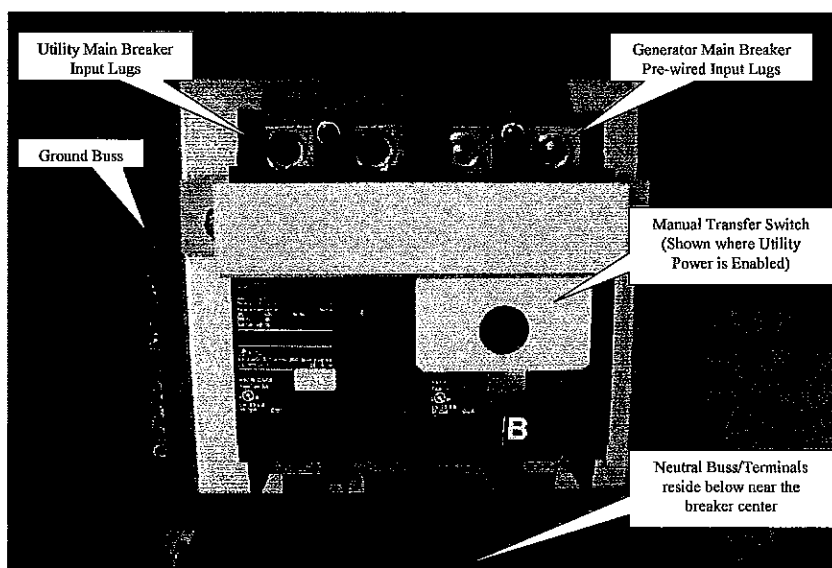

Figure 4. PPC Main Breaker Layout (left: Commercial Power, right: Generator)
3. The two "hot" conductors (Line1 & Line2) should be installed in the "Utility Main Breaker Input Lugs" on the top of the Commercial Main Breaker (see Figure 4).
5. The Ground conductor (green) should be installed in an available position on the Ground Buss located near the Commercial Main Breaker (see Figure 4).
6. Under normal circumstances, the "Manual Transfer Switch" (sliding bar) should have the open end over the left-most breaker allowing the Commercial Disconnect to be ON (see Figure 4).
**Generator Operation (refer to Figure 4 for procedures):**
2. Connect the conduit all the way to the SquareD panel through a Knock Out (K.O.) located either on the bottom or side. See Figure 4. You can access the interior of the SquareD panel by removing the screws holding on the dead-front.